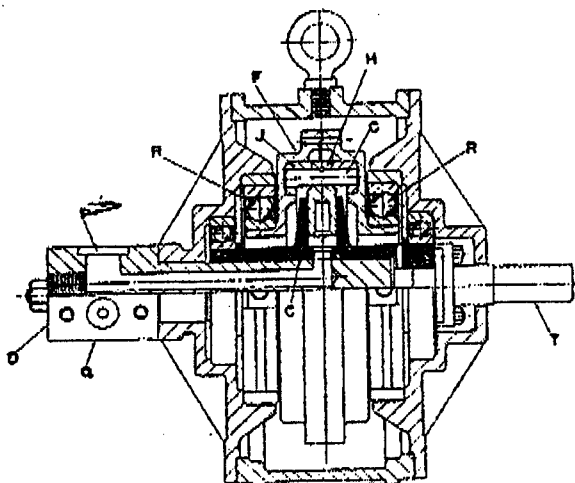

FIG. 4.
To decrease this resistance and thereby increase the efficiency of the pump the path E is formed as part of a floating ring which runs on bearings. This is made clear in Figs. 4, 5, 6 and 7, views of an actual pump in outline. In these figures the lettering used in the previous figures has been adhered to for similar parts.
- (1) Remove pump from soleplate and place it on deck with driving shaft T looking upwards with half coupling removed.
- (2) Fit packing under pump to prevent D tube resting on deck.
- (3) Remove shaft cover L by means of starting screws.
- (4) Remove pump spring control gear.
- (5) Remove spindle S by unscrewing (anti-clockwise).
- (6) Insert eyebolt in end of driving shaft and lift by means of block and tackle or other suitable device. All the internal working parts will be removed by this operation.
- (7) Prise off guide blocks N.
- (8) The cylinder body ball race U can now be removed.
- (9) Should it be necessary to use force to remove the cylinder body ball race U, three pinch bars may be employed, or withdrawing gear arranged as shown in Fig. 4.
- (10) Remove bolts in floating ring F. Care to be taken that nuts, being "Castle" type, are put back on the same bolts.
- (11) By lifting top half of floating ring F the pistons H and slippers J will be exposed to view.
- (12) To withdraw pistons and slippers both halves of floating ring F must be removed.